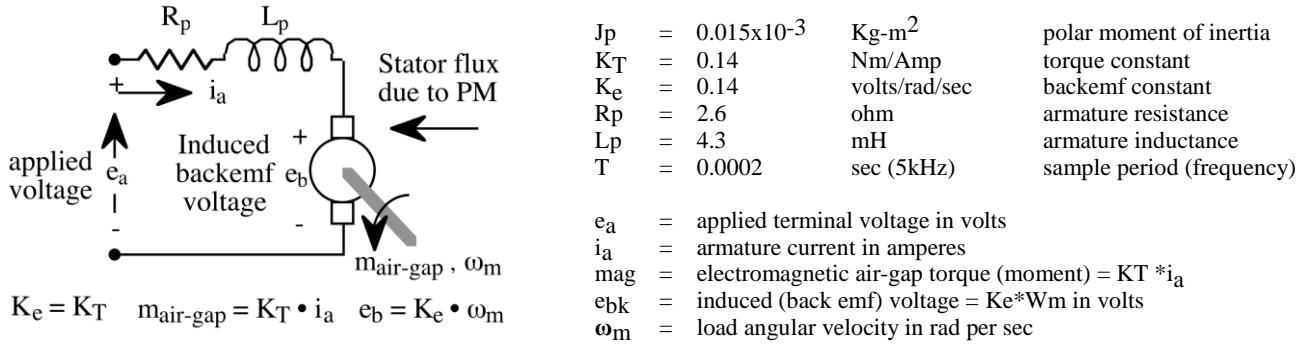
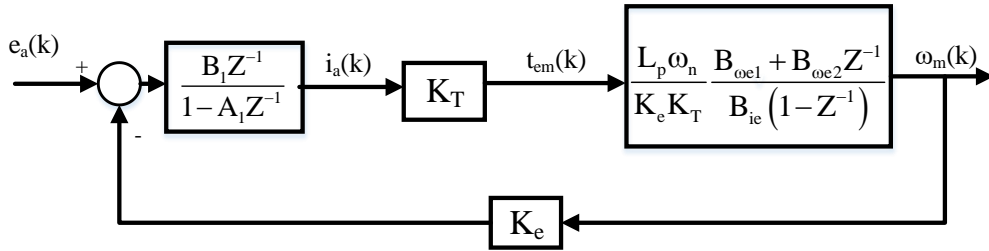
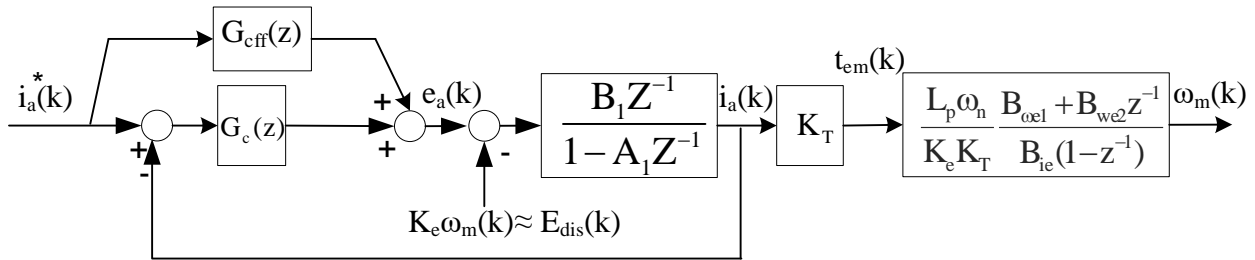

Fig. 1. DC motor with voltage input
Fig. 2. The Z-domain model for the DC motor with voltage input
Fig. 3. The voltage manipulated DC motor with current regulation
Final exam is to design the digital current controller for motor drives. Considering the voltage input motor drive in Fig. 1, the corresponding discrete-time model is shown in Fig. 2. By adding the current sensor, the current regulator can be implemented. The expected controller is shown in Fig. 3. The controller input is current command  $i_a^*(k)$  and output is the actual motor current,  $i_a(k)$ . The EMF voltage drop is assumed as the external disturbance  $e_{dis}(k)$  for simplicity.
**4. (20%)Command tracking:** Design a current feedforward controller  $C_{cff}(z)$  in Fig. 3. Assuming the ideal parameter estimation, show  $C_{cff}(z)$  transfer function with the numerical value. Apply a 1A/100Hz sine wave current command to the PI plus CFF control system. Overlay another two figures,  $i_a^*(k)$  &  $i_a(k)$  vs. time, and  $i_{err}(k) = i_a^*(k) - i_a(k)$  vs. time. Compare  $i_a(k)$  response with Problem 2. With CFF, no phase delay should be observed ? **Otherwise, explain the reason why the delay still appears with CFF.**
**5. (15%)Disturbance rejection:** Apply a discretized 1V/100Hz sine wave voltage disturbance  $e_{dis}(k)$  in Fig. 3. Explain the performance difference between PI plus CFF and deadbeat without CFF. Explain the performance difference between two different control methods.